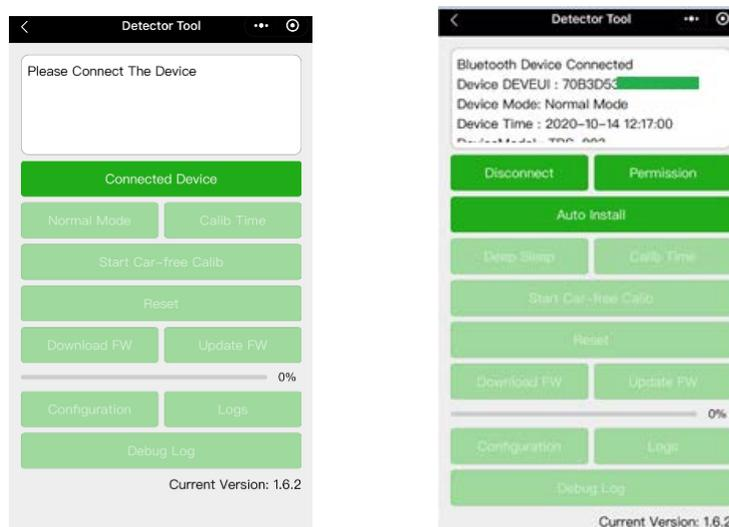

Figure 10. WeChat applet configuration page
- 5) Click "Connected device" in applet. If success, the device basic information will be displayed in applet. As shown in figure 10.